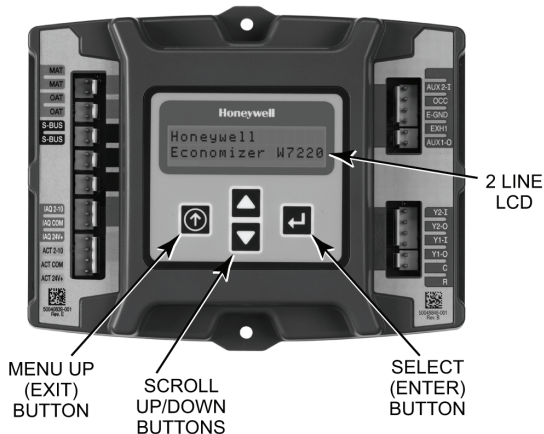

Fig. 14 — W7220 Controller
17. For 1 and 2 speed units connect the plugs coming from the controller as shown in wiring diagram, Fig. 14 and 8.
W7220 Economizer Controller — The economizer controller used on electro-mechanical units is a Honeywell W7220 which is to be located in the RTU base unit's control box. See Fig. 14 for button description of the W7220 controller. See the Installation Instruction for your base unit for the location of the control box access panel.
KEYPAD — The four navigation buttons (see Fig. 14) are used to scroll through the menus and menu items, select menu items, and to change parameter and configuration settings.